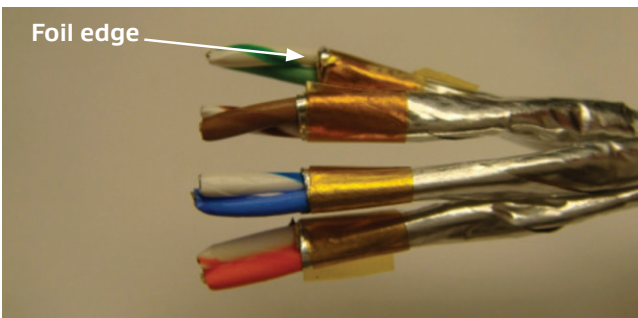

Figure 15: Tearing the foil
9. With cutters, cut the foil on each pair where it meets the tape (Figure 15). Tear the foil along the edge.